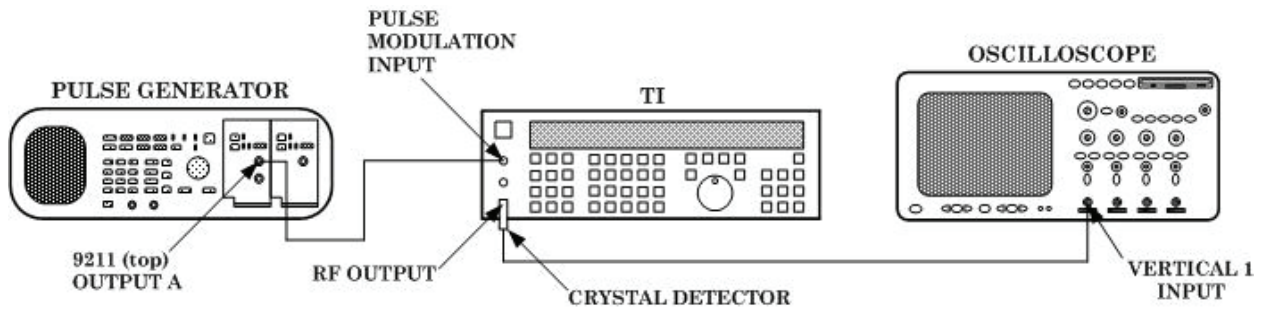

Figure 2. Pulse modulation risetime hookup.
- (7) Set TI **FUNCTION-RF ON** to off (red light extinguished).
- (8) Connect equipment as shown in figure 2.